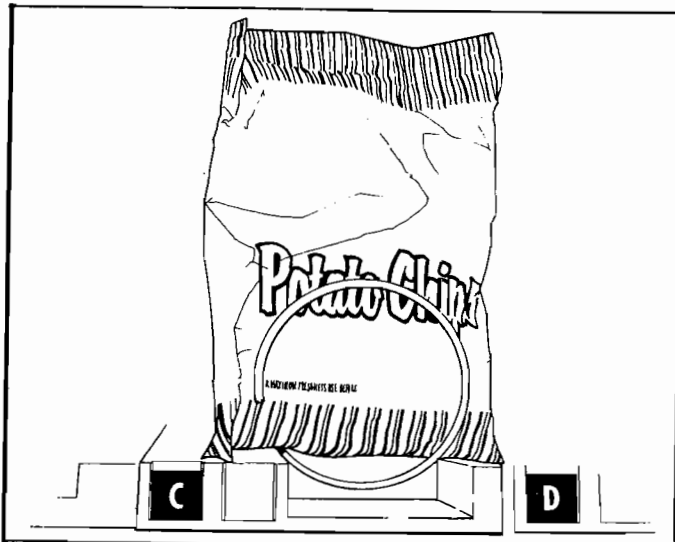
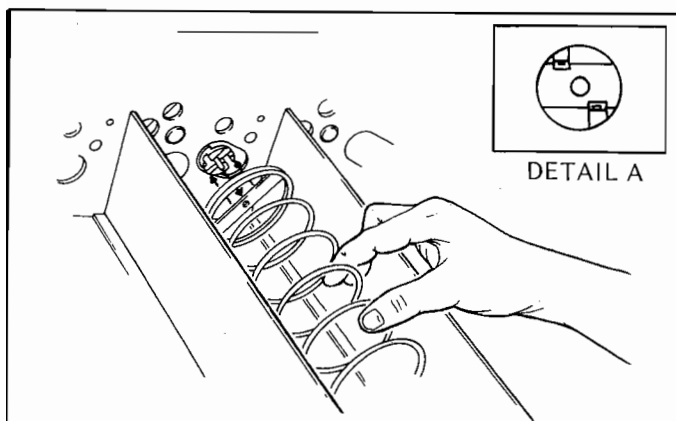
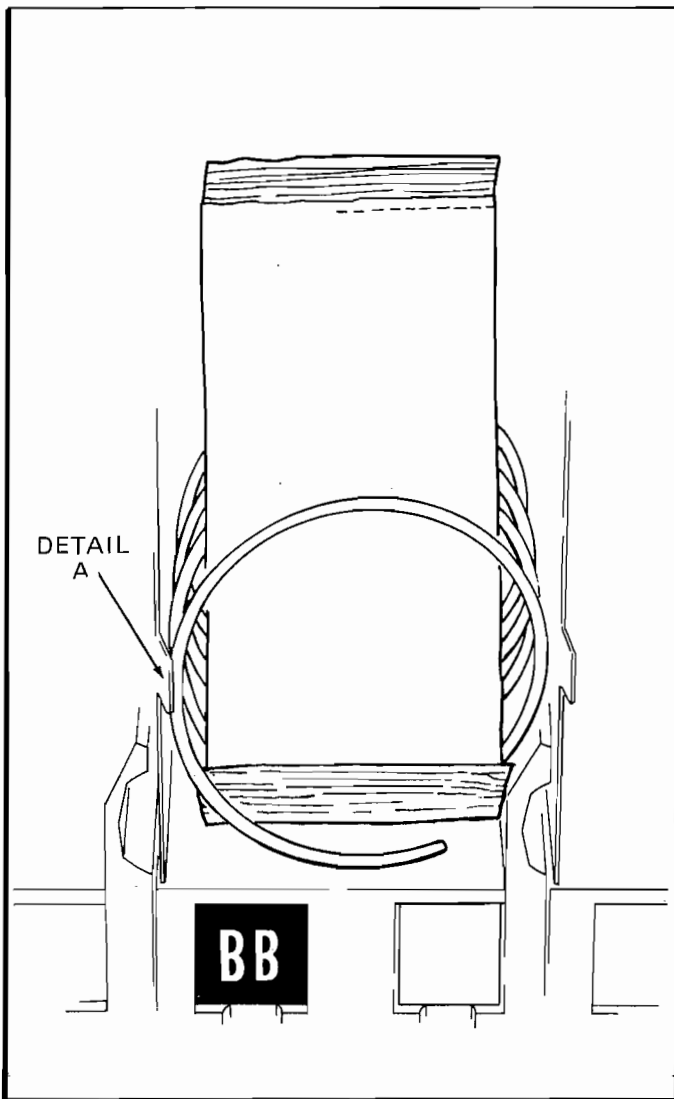

Figure 2. PLACEMENT OF PRODUCT ON MAIN PRODUCT SNACK SHELVES AND FRONT END POSITION OF SPIRAL.
Figure 3. REMOVING AND INSTALLING SPIRAL.
Figure 5. PLACEMENT OF PRODUCT ON MAIN PRODUCT CANDY SHELVES AND FRONT END POSITION OF SPIRAL.
IMPORTANT: Product must not be forced into the spiral spaces but should fit freely. If the product is too tight, use a larger pitch spiral. The bottom of the product should be placed on top of the spiral wire that rests on the shelf surface (see Figure 2). The width of the product must be greater than the diameter of the snack spiral. If it is smaller, the product may fall through when it is in the front, ready to vend position.
4. **REMOVAL OF SPIRAL:** To remove a spiral, grasp the spiral near the rear of the shelf and pull forward. To install a spiral, align the hole in the cross strap, at the rear of spiral, with the motor shaft. (See Figure 3) Be sure the front end of the spiral is positioned properly (with the front end of spiral pointing downward on the left side) (see Figure 2); align strap between retainer tabs on spiral retainer (see Detail A, Figure 3) attached to motor shaft, push spiral to rear until both tabs snap over strap (see Figure 3). Give a light forward pull on front of spiral to check if it is locked in place.
5. **PRODUCT SPACERS-4 SELECTION SHELF:** A product spacer (page 18, item 9) is used to reduce the width of the product area and should be used on any 4-selection snack shelf where the product width is $4\frac{1}{2}$ " or less.
6. **LOADING MAIN PRODUCT CANDY SHELVES:** The 8-selection (candy type) shelves are loaded similar to the 4-selection shelves except that the bottom of the product sits on the shelf in *front* of the spiral wire (see Figure 5) that rests on the shelf. These products must also fit properly in the spiral space; *do not* force product into spiral. These spirals are removed and installed the same as the large spiral (see Figure 3), except that the front end position is different (approximately 5 o'clock) (see Figure 5) and the front left side of the spiral must be behind the small tab located on the left side of the product space side wall (see Figure 5, Detail A).